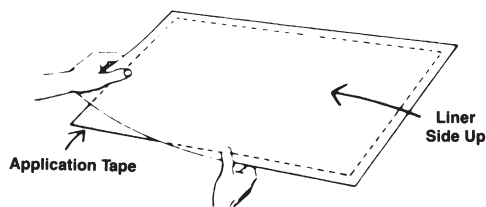

Figure 5
**A. Strip application tape from roll and lay adhesive side up on table (Figure 5).**